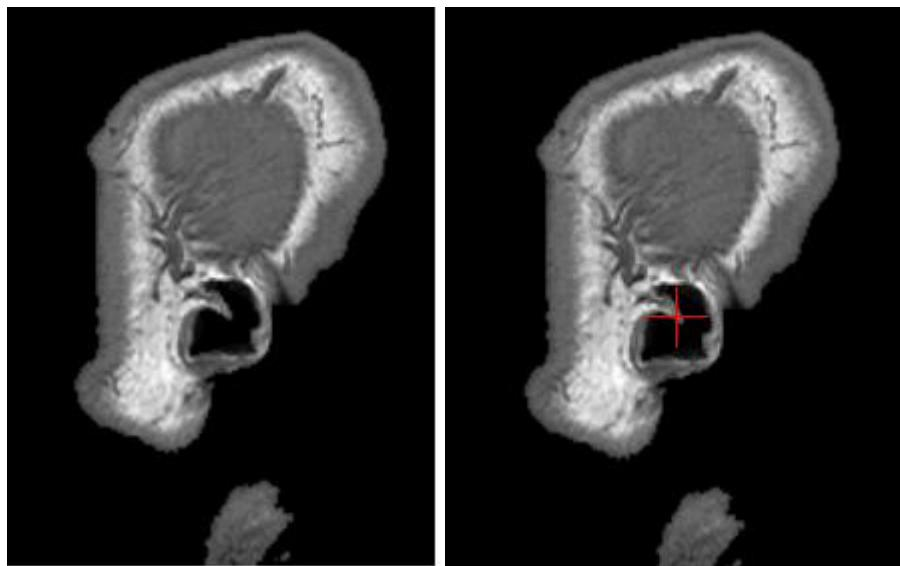

Fig. 72. Highest part of the crus of helix, and MRI landmark location
2. Move the crosshair slightly outwards until only the highest part of the crus of helix is visible and no longer completely bridging the ear as shown in Figure 72. The landmark position is at the tip of visible crus of helix. Note that you have to locate this position for both the left and right ear landmarks.